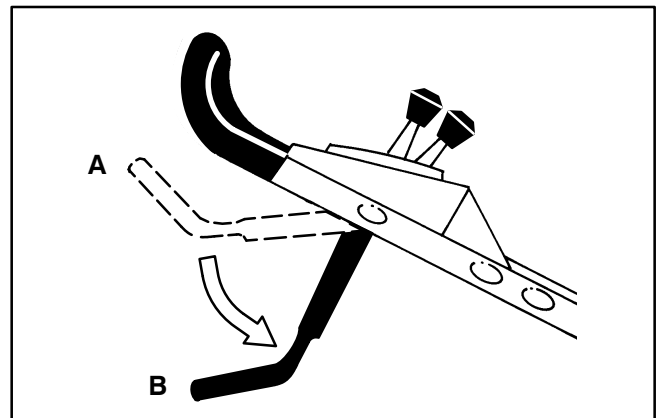

Figure 18
7. Push control bar down to lowest position (Fig. 18, position B).
3. Push the control bar (Fig. 18) down to the lowest position.